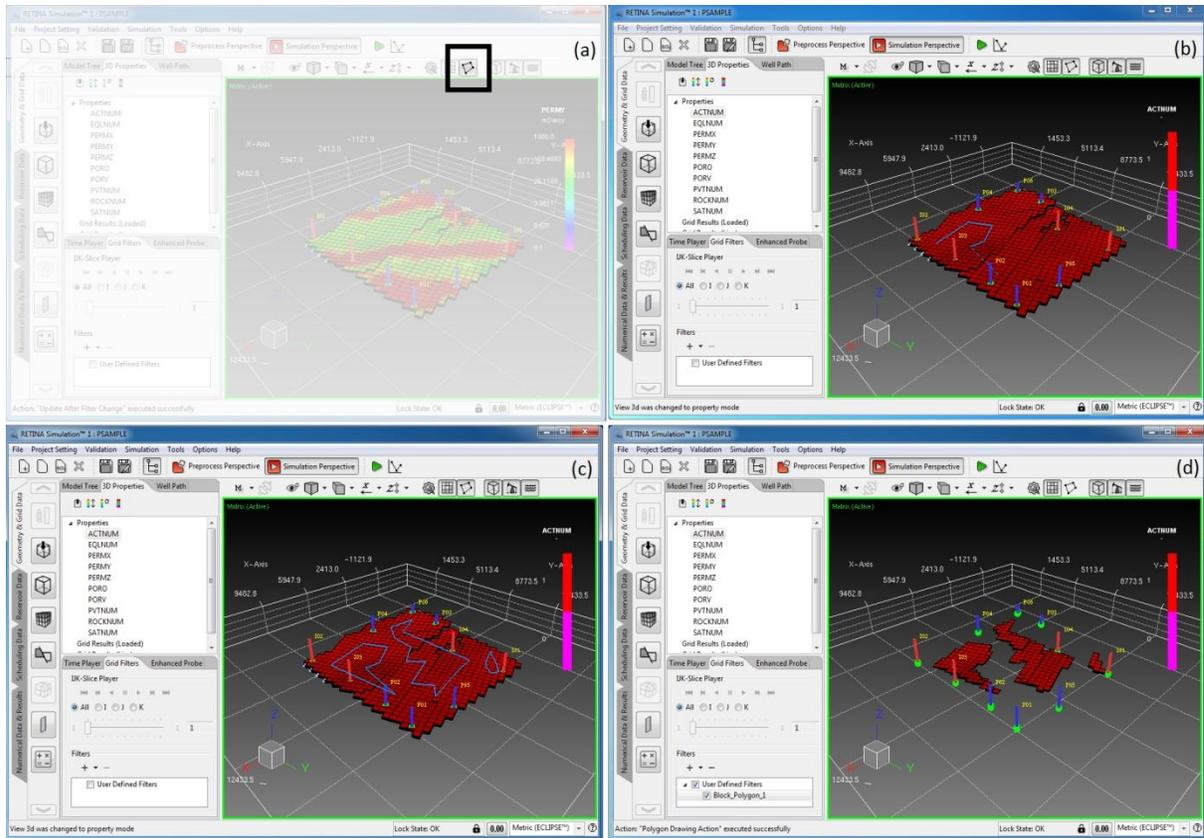

Figure 38 Creating Polygon Filter
3. *Block Polygon Filter*: for creating a polygon filter user must be pick the polygon icon “” from the 3D view toolbar (Figure 38a), and draw polygons by clicking (Figure 38b). User can draw multiple polygons (Figure 38c). Double clicking in each position will close the polygon. After creating all desired polygons, user can make the polygon filter (Figure 38d) using “Add Polygon Filter” which is available in “Filter” section. The name of the “Block\_Polygon\_###” is assigned to the defined block polygon filter, by default; this name is editable by double clicking on the created filter. If user wants to exit polygon drawing status the “Esc” key must be used. Figure 38 displays the polygon drawing on 3D view.